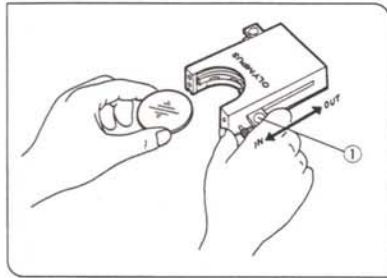

Fig. 16
**Using the Filter Cassette (option) (Figs. 16,17,18,19)**
**Loading Filters Into the Filter Cassette (Fig. 16)**